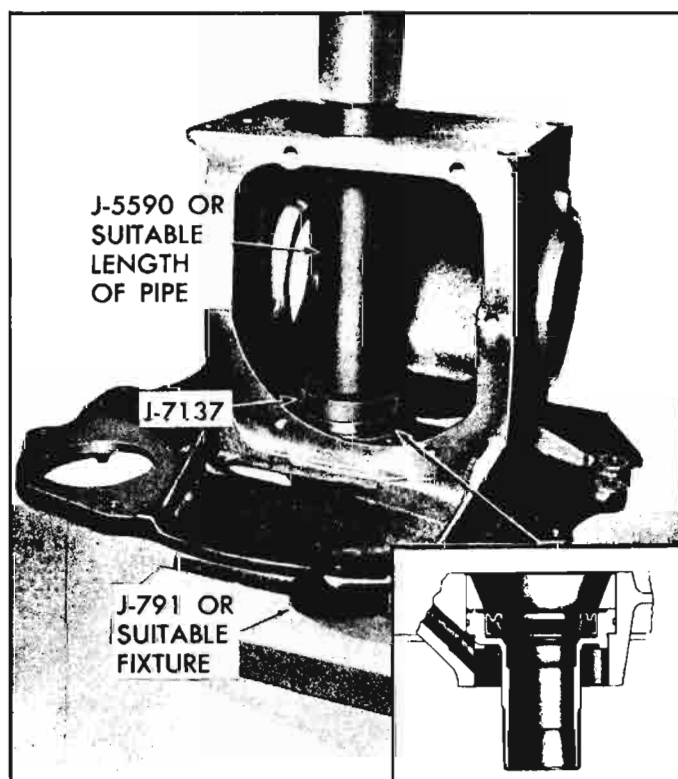

Fig. 6C-45—Installing Stator Shaft and Pinion Rear Bearing Race
4. Align notch in stator shaft (Fig. 6C-42) with drain back passage boss in differential carrier. Place bearing race on stator shaft and press race and stator shaft into housing carrier using J-7137 (fig. 6C-45).